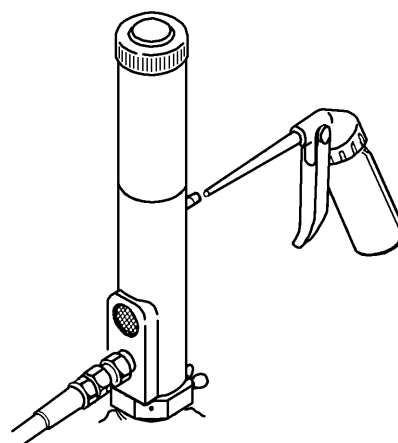

Fig. 7
- 2) Inject several drops (approx. 0.5 mL) of lubricant to the air supply port as shown in the figure at right. Use turbine oil first class ISO (VG-32) as the lubricant. (Fig. 7)